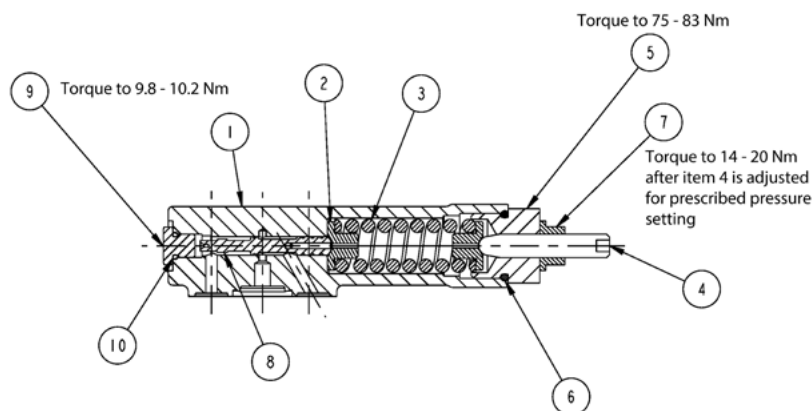

Figure 17
1. Remove the four screws fastening the compensator housing to the end cap (Figure 17②).
2. Remove the compensator and take out the three O-rings (Figure 17③④).
5. Install three O-rings (Figure 17③④). The one in the middle is larger, and the ones at ends are smaller.
6. Fasten the compensator housing to the end cover with four screws (Figure 17②) and tighten them with a torque of 7.4 - 9 Nm. When tightening, use a crisscross pattern and re-tighten the first screw.